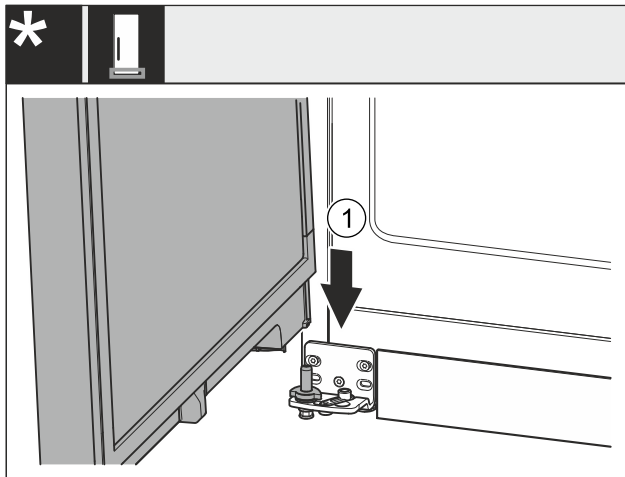

Fig. 44 \*
- Lower the door onto the bottom bearing bolt Fig. 44 (1)\*